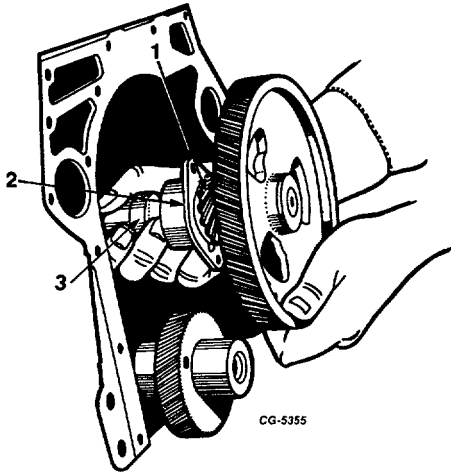

Fig. 62 Camshaft Removal
68. Remove the camshaft assembly, Figure 62.